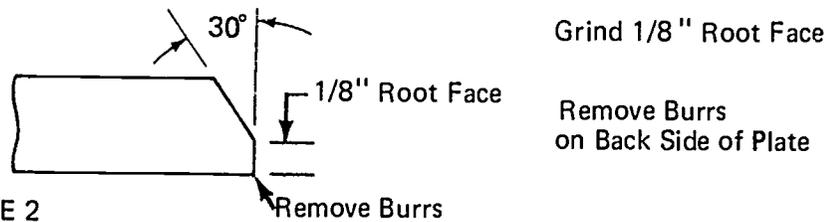

FIGURE 2
- D. Prepare metal by beveling one long side of each plate (Figure 2)